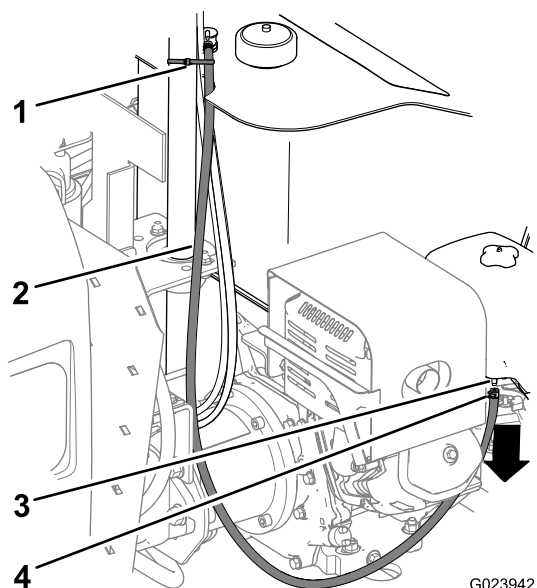

Figure 14
1. Remove the cable tie that secures the vent hose for the fuel tank to the handlebar column (Figure 14).
2. Remove the clamp that secures the vent hose to the hose fitting at the bottom forward corner of the air-filter case (Figure 14).
3. Remove the hose from the fitting and remove the hose from the machine (Figure 14).